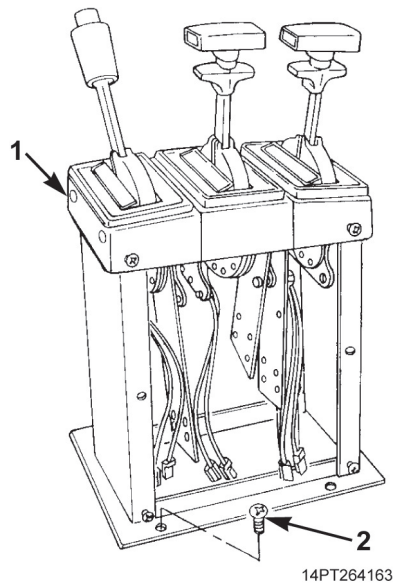

Figure 5. Shift Tower Removal.
18. Remove four screws (Figure 5, Item 2) and shift tower (Figure 5, Item 1) from cab floor.